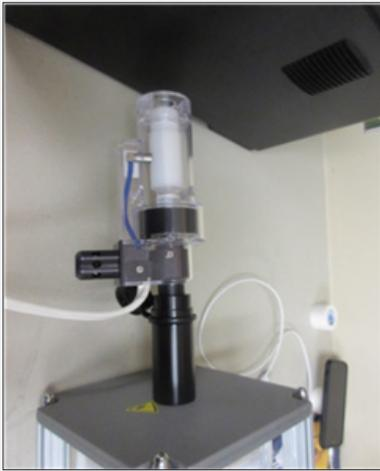

Figure 13 : Connect the spirometer to the automated morning QA device.
- xii. Connect the spirometer to the automated morning QA device (Figure 13).